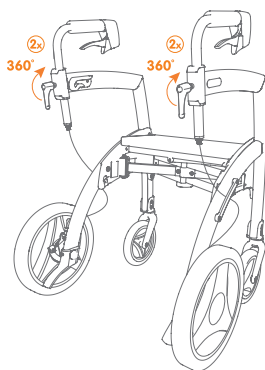

Figure 16A: Tighten the adjustment handles.
- f. Turn the adjustment handles clockwise to tighten them (**Figure 16A and 16B**).